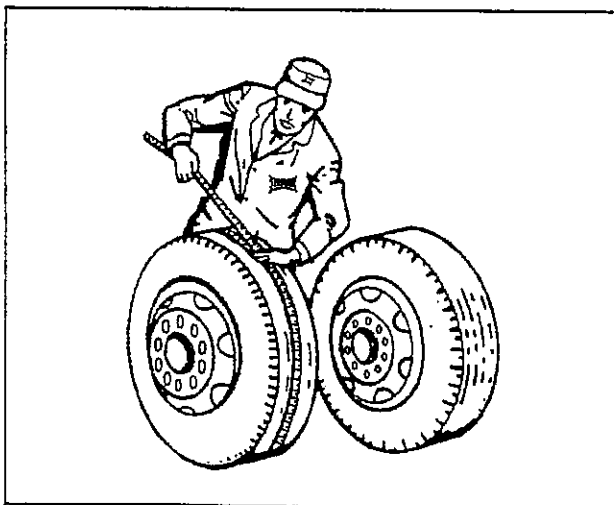

Fig. 4-9 Measuring Tape Method
a. Tape Measuring Method: Measure around each tire on the tread surface. A maximum difference of $3/4$ " is allowed between the two mating tires of a dual (See Figure 4-9).